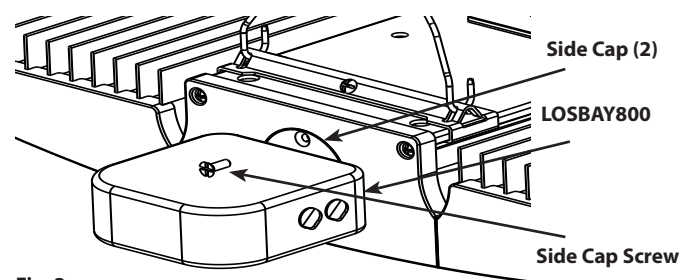

Fig. 3
5. If ordered with **LOS800** sensor (suffix /LOS) or similar sensor or LightCloud™ controller, re-attach pre-wired sensor on **Side Cap** to **Housing**. Sensor can be disconnected with supplied quick disconnect connector. Tighten **Side Cap Screw** as shown in **Fig. 3**.
7. Secure **Access Plate** and tighten **Screws (2)**.